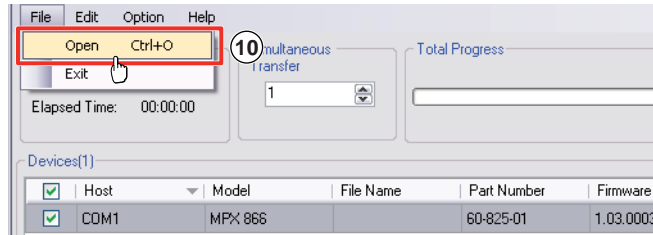

Figure 40. Extron Firmware Loader Window
- If the switcher is connected via either serial port, the Extron Firmware Loader appears (see figure 40 and “Serial-port-connected firmware upload,” on the next page).